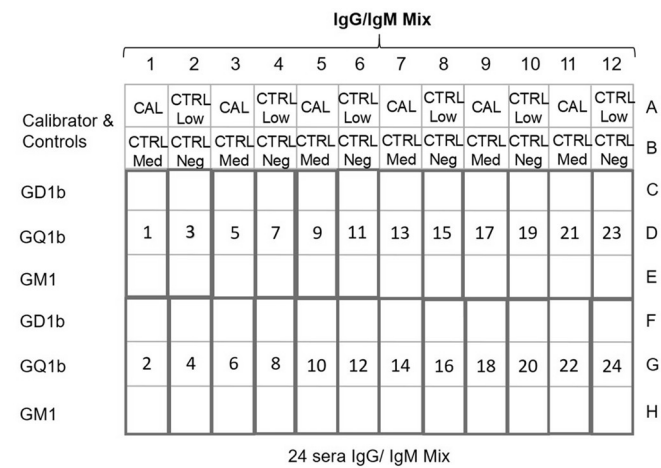
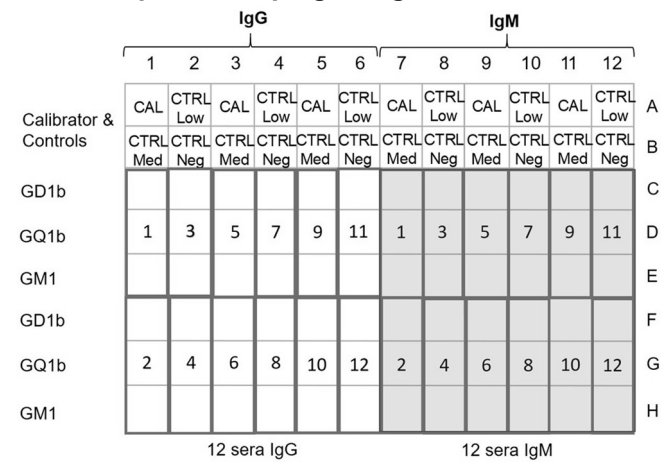

Figure 1A: ≤ 24 sera / kit (1 MP / kit)
Figure 1B: 2 profiles / serum, ≤ 12 sera / kit (1 MP/kit)
- 4a. Pipet 100 µL of calibrator into the well A1 (refer to figure 1A for option 1 or figure 1B for option 2).
- 4b. Pipet 100 µL of medium control into well B1, of low control into well A2 and of negative control into well B2 (refer to figure 1A or 1B).
Note for option 1: If more than three strips per run are used, calibrator and controls can be tested in duplicates (see figure 1A).
Note for option 2: Calibrator and controls should be run separately for the IgG and IgM isotypes (see figure 1B).
- 4c. Pipet 100 µL of diluted sample 1 into wells C1-E1 (refer to figure 1A or 1B).
- 4d. Pipet 100 µL of diluted sample 2 into wells F1-H1 (refer to figure 1A or 1B).
- 4e. Pipet 100 µL of diluted samples 3-24 (for option 1) or 3-12 (for option 2) into subsequent wells (refer to figure 1A or 1B).
- 7'. Add 100 µL of either enzyme label IgG or IgM to the respective wells (refer to figure 1B).